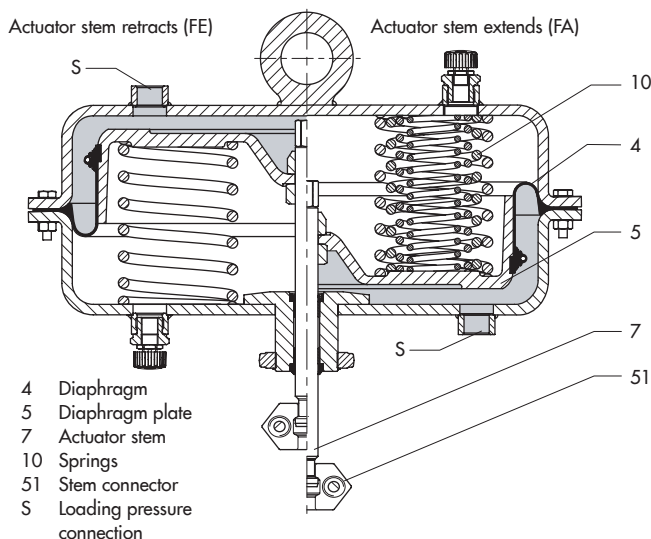

Fig. 1: Sectional drawing of Type 3271, 1400-60 cm2
In the "actuator stem extends" version of Type 3271 Actuator (1400-60 cm2) (Fig. 1, right), the signal pressure is routed through the bottom loading pressure connection (S) to the bottom diaphragm chamber and moves the actuator stem (7) upward opposing the spring force.
In "actuator stem retracts" version (Fig. 1, left), the signal pressure is routed through the top loading pressure connection (S) to the top diaphragm chamber and moves the actuator stem (7) downward opposing the spring force.